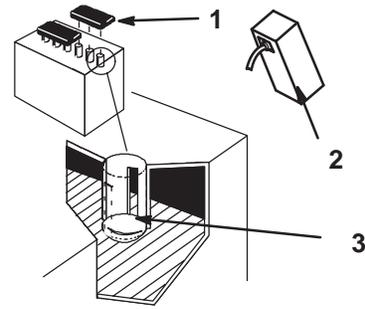

Figure 4
4. Remove the filler caps from the battery (Fig. 4).
5. Slowly pour electrolyte into each cell until the electrolyte level is up to the lower part of the tube (Fig. 4).
9. Slowly pour electrolyte into each cell until the level is once again up to the upper line on the battery case (Fig. 4) and install the covers.